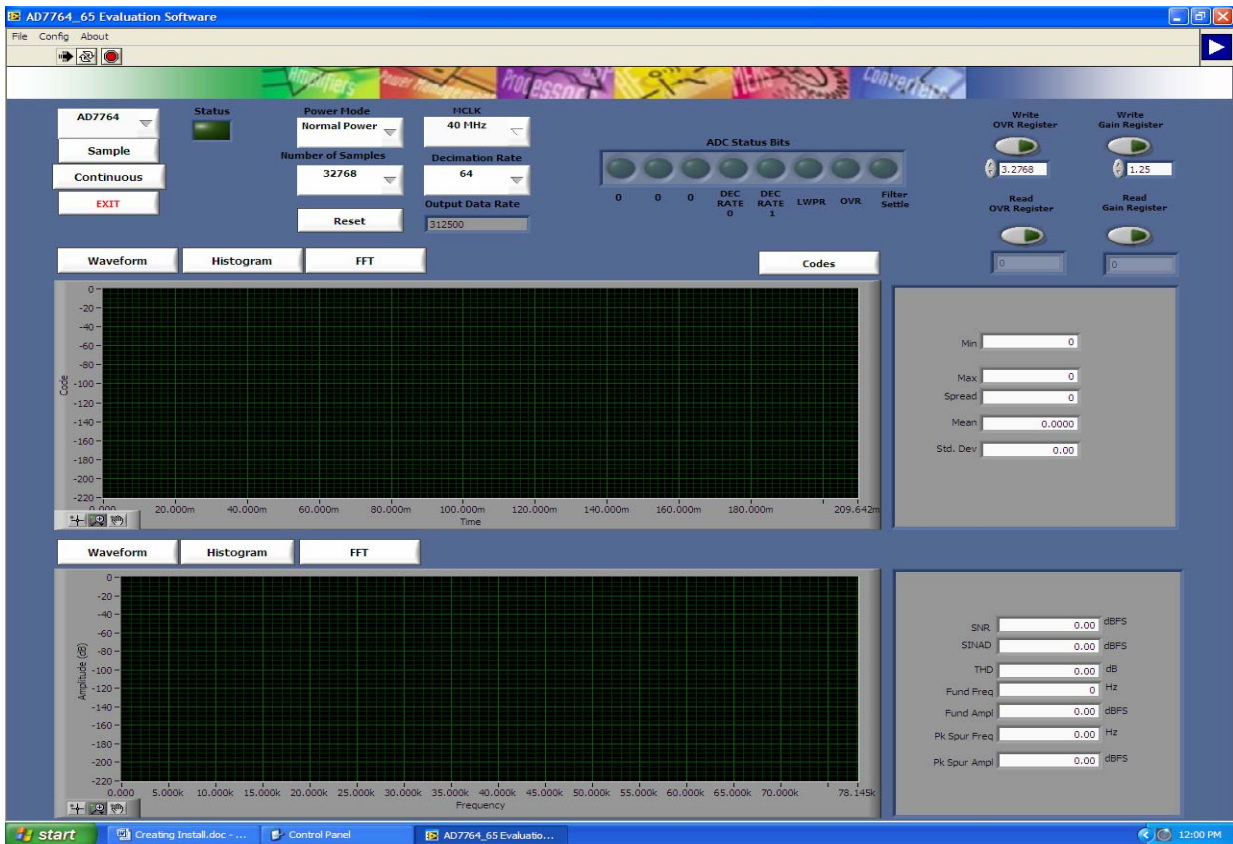

Figure 11. EVAL-AD7764/AD7765EDZ Evaluation Software Front Panel Features
6. The user can specify the power mode, decimation rate, and number of samples to be acquired (typically 65536 samples) by using the drop-down menus on the software front panel circled in red in Figure 11. The software allows the number of samples specified by the user samples to be viewed as a waveform, histogram, or FFT. The Front panel is shown in Figure 11.